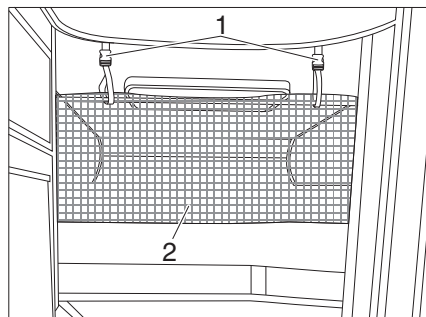

Fig. 56 Safety net
The safety net (Fig. 56, 2) is stored as standard between the mattress and slatted frame. Do not mount the safety net until the person is already in bed.
- Hook the retaining straps (Fig. 56, 1) into the holders on the ceiling.